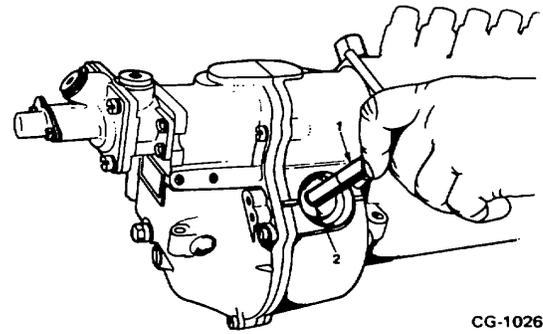

Figure 6. Making Preliminary Governor Cut-Off Adjustment
- Adjust cut-off by increasing or decreasing pre-tension of governor weight springs. Use KDEP 2989 governor spring adjusting wrench on cylindrical nut to make this adjustment (Figure 6).